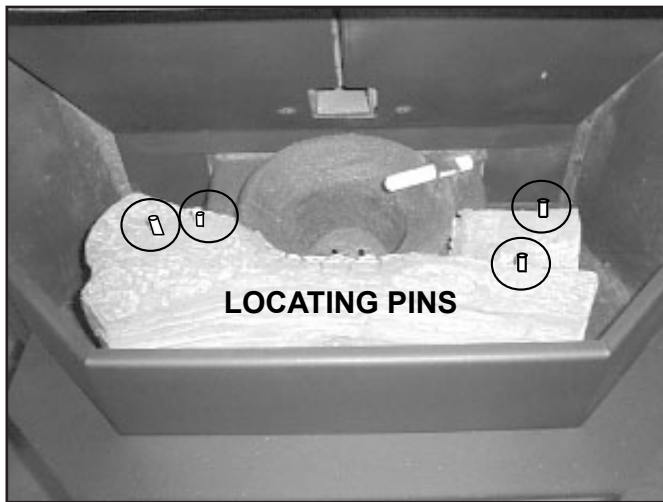

Figure 28.1
1. Place the front log in first as shown in **Figure 28.1** charred area surrounding fire pot.